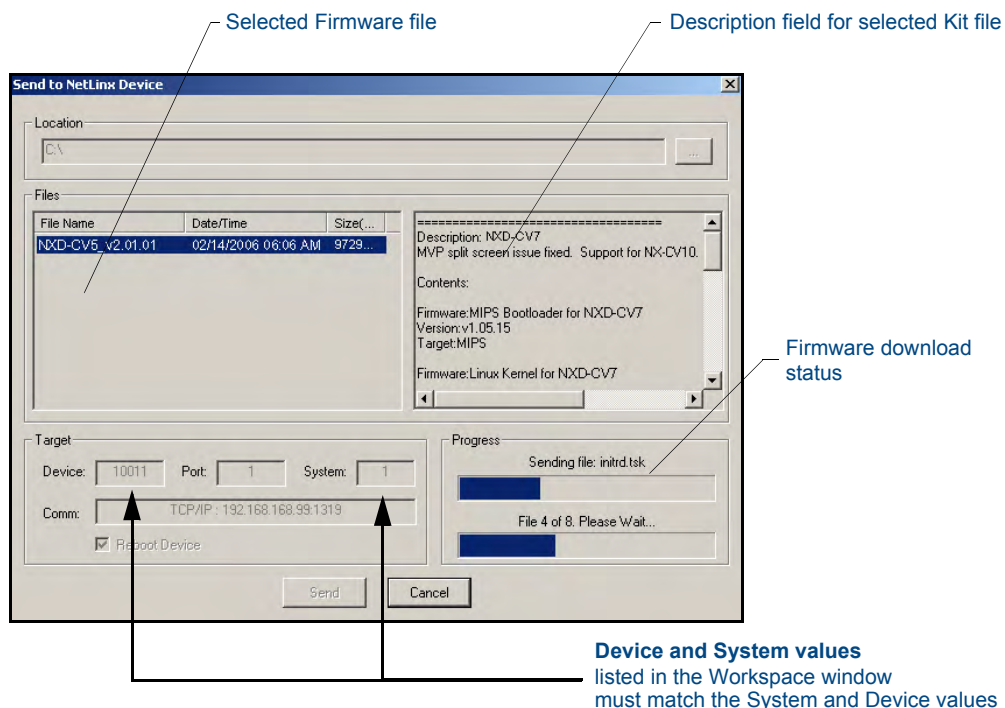

FIG. 52 Send to NetLink Device dialog (showing Modero firmware update via IP)
- From within Studio, select **Tools > Firmware Transfers > Send to NetLink Device** from the Main menu to open the Send to NetLink Device dialog (FIG. 52). Verify the panel's System and Device number values match those values listed within the System folder in the **OnLine Tree** tab of the Workspace window.
7. Select the panel's Kit file from the **Files** section (FIG. 52).
10. Click **Send** to begin the transfer. The file transfer progress is indicated on the bottom-right of the dialog (FIG. 52).